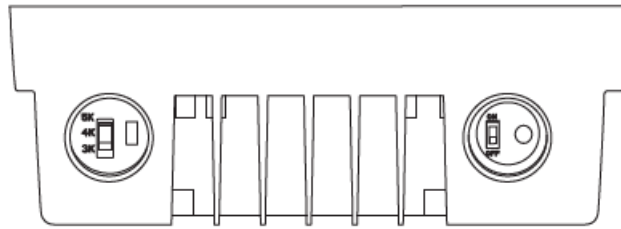

Fig: 6
2. Locate the Selector Switches on the fixture Fig. 6,7.